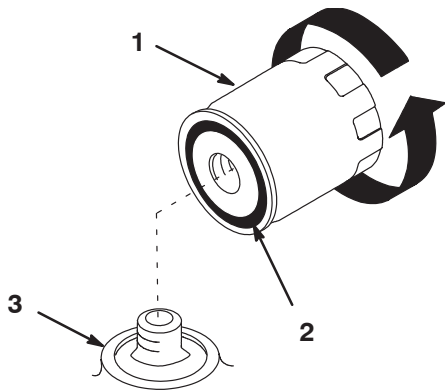

Figure 21
2. Remove the old filter and wipe the filter adapter (Figure 21) gasket surface.
3. Apply a thin coat of new oil to the rubber gasket on the replacement filter (Figure 21).
4. Install the replacement oil filter to the filter adapter. Turn the oil filter clockwise until the rubber gasket contacts the filter adapter, then tighten the filter an additional 1/2 turn (Figure 21).